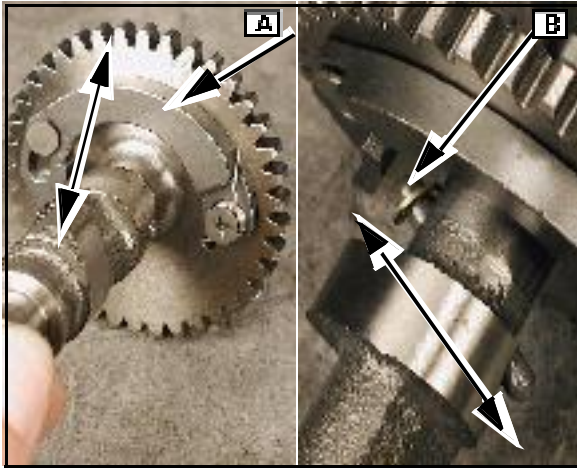

Fig. 4
1. Rotate the weight (A) against the spring and move the decompression pin (B) Fig. 4) back and forth. Pin should slide easily through camshaft.